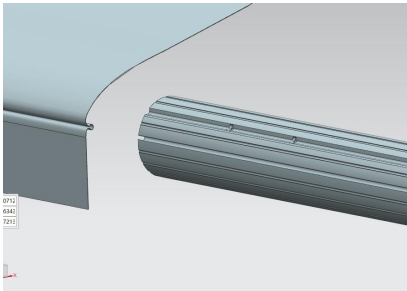
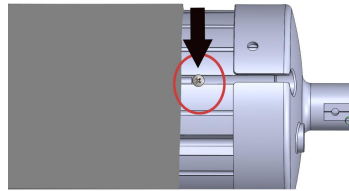
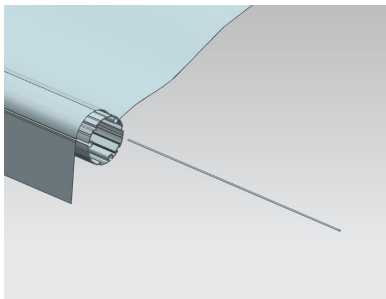

Figure C12
Figure C13
Figure C14
3.5 Open the fabric, insert the fabric into the slot of the roll tube, then insert the front end of the fabric into another slot on the roll tube, and then fix the Screw B to prevent the fabric from moving, next insert the fabric strip into the slot. Last insert the loop belt to the strip. (Figure C12, Figure C13, Figure C14, Figure C15)